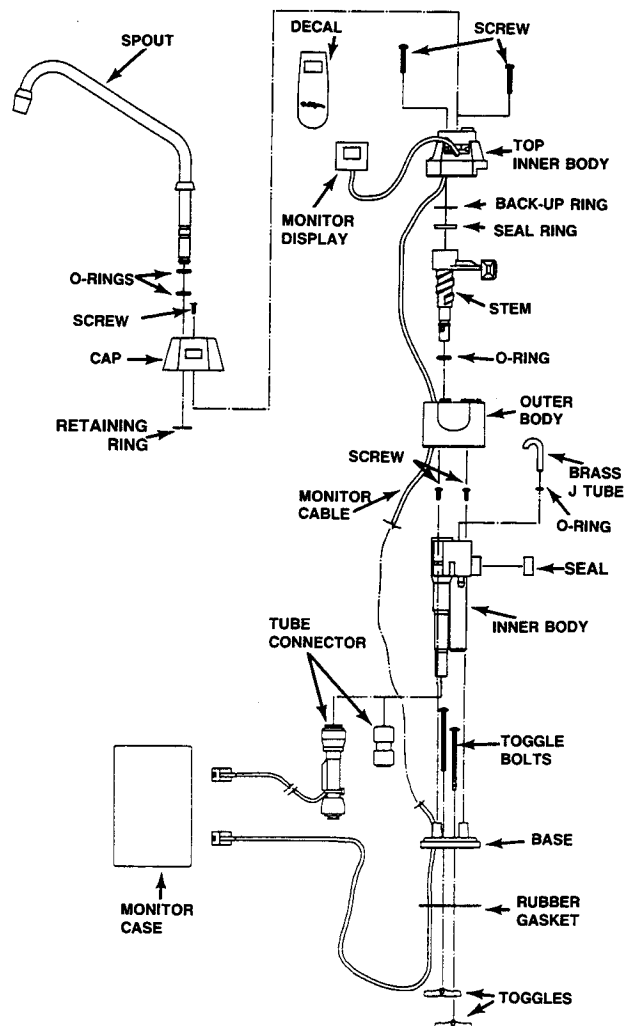

FIG. 13
- Install the two toggle bolts (Fig. 13) loosely onto the faucet base. Adjust to the approximate thickness of the sink.